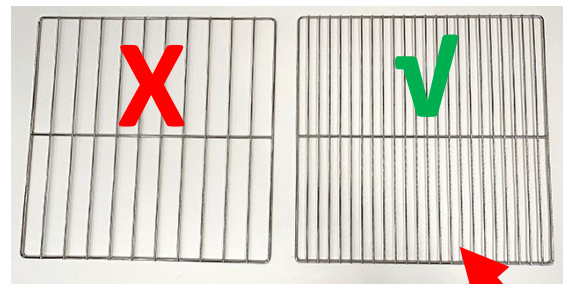

Figure 43
83. Verify that the basket rack installed is like the rack on the right (see Figure 43) with the smaller spacings. If not, annotate and note the number of racks needed (PN 130254874).